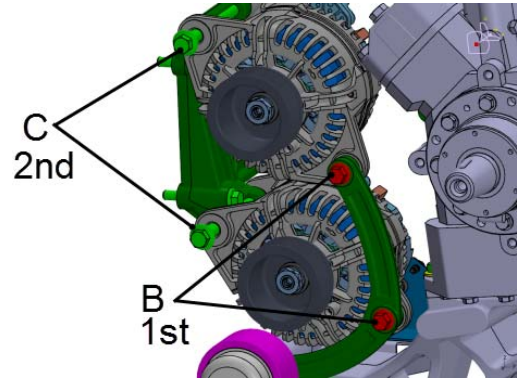

FIGURE 17
24. In order to assure proper installation, it is important to tighten the alternator mounting bolts in proper sequence (FIGURE 17).